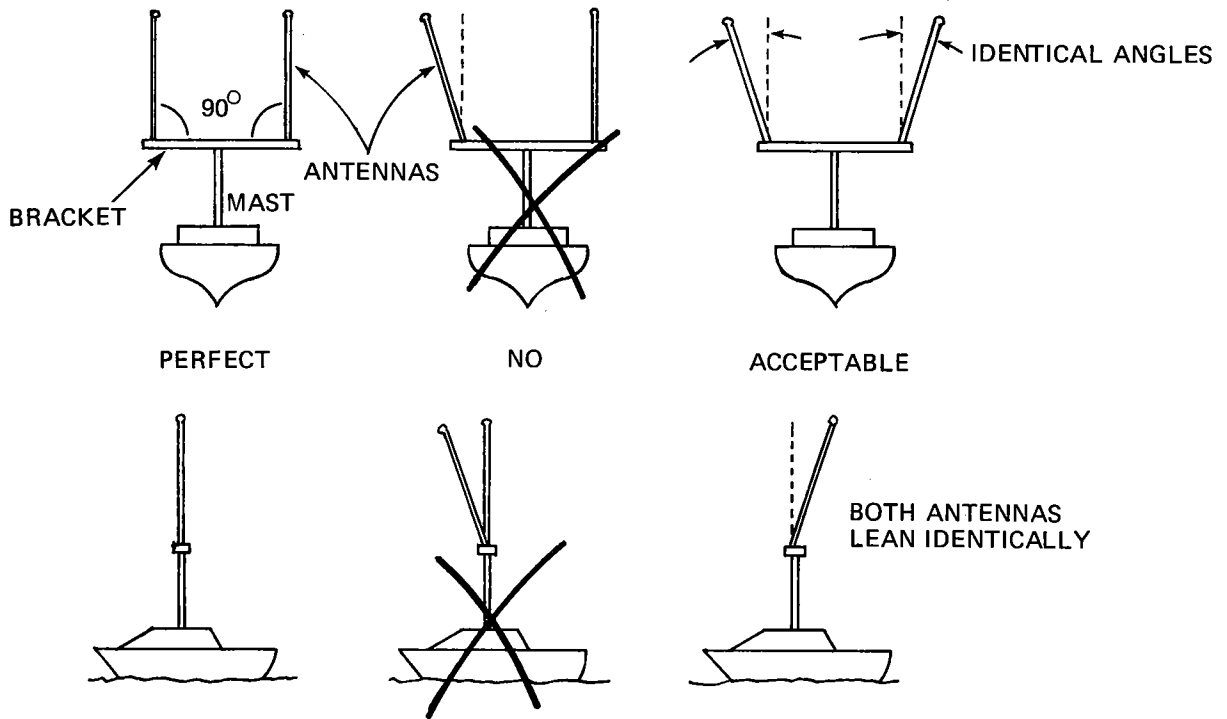

Figure 2-2. Antenna Mounting Tolerances
2.5.2.3 Antenna Attachment. - Mount the antennas on the bracket after it has been attached to the mast. With coaxial cables disconnected, install the antennas and finger tighten the mounting nuts. Rotate the antennas until they are vertical or symmetrical as shown in figure 2-2. When satisfied that the best positioning has been achieved, carefully tighten the mounting nuts.